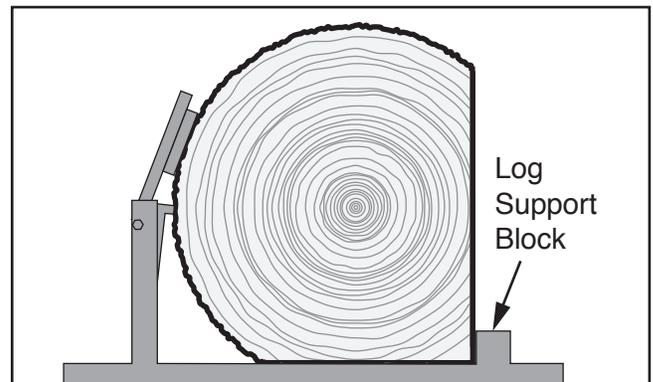

Figure 83. Example of cant secured against log support blocks.
7. Rotate cant 90° and secure against log support blocks with log clamps (see **Figure 83**).